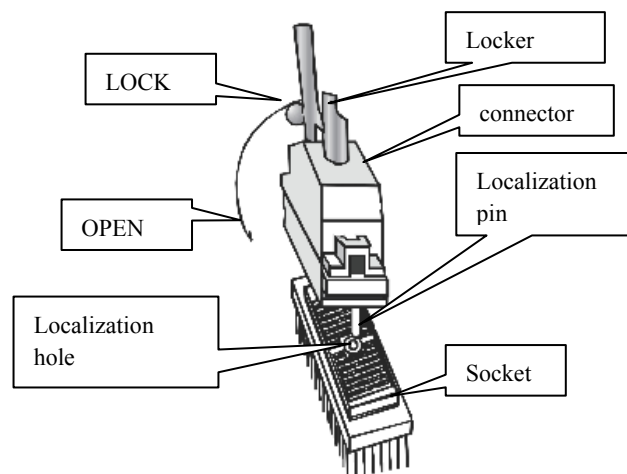

Figure 3-1 96-core probe connection sketch
2. A 96-core connector is used for electronic convex array probe (see figure 3-1).